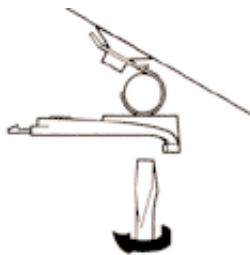

Figure 3
4. You can adjust the angle of the mounting bracket so that it is horizontal. See figure 3.